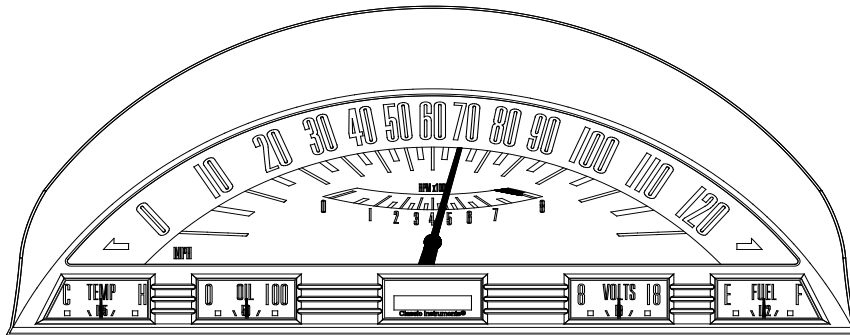

FIG. 2
- 5) When you are finished, select the exit option (8000 RPM) then press and hold the pushbutton. **Fig. 2**